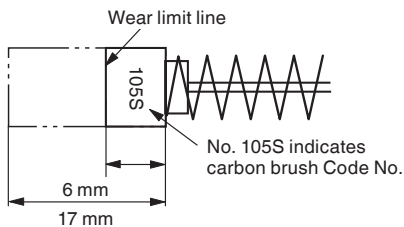
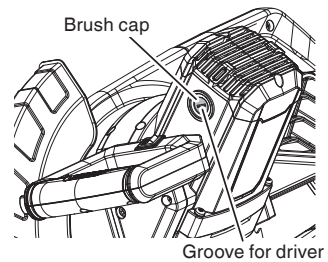

Fig. 40
Fig. 41
3. Inspecting the carbon brushes (Fig. 40 and Fig. 41)
Therefore, inspect the carbon brushes periodically and replace them when they have become worn to the wear limit line as shown in Fig. 40.
The carbon brushes can easily be removed after removal of the brush caps (see Fig. 41) with a slotted (minus) screwdriver.